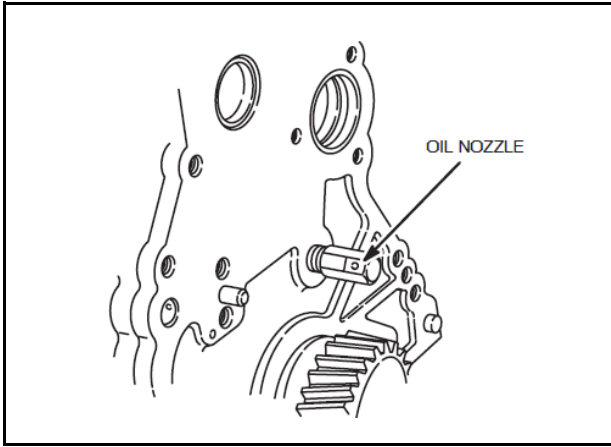

Fig.11-Removing Oil Nozzle
4. Remove timing gear oil nozzle, Fig.11.